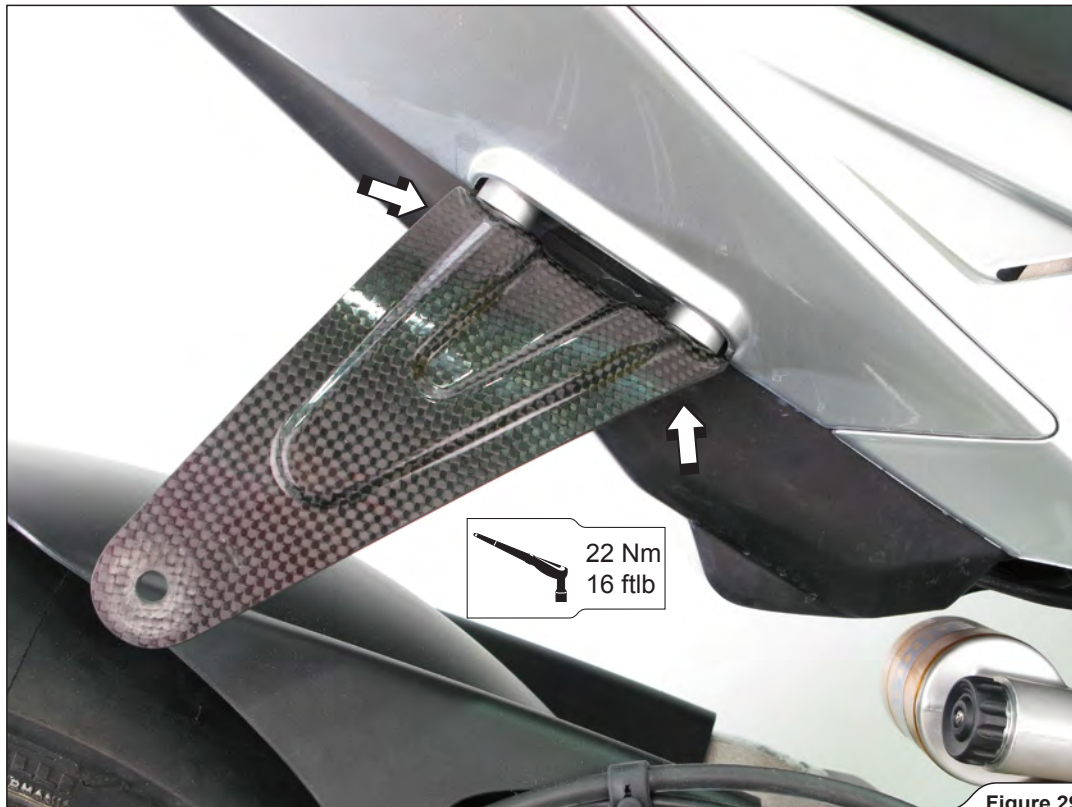

Figure 29
8. Tighten the muffler's bracket onto the subframe (Figure 29).